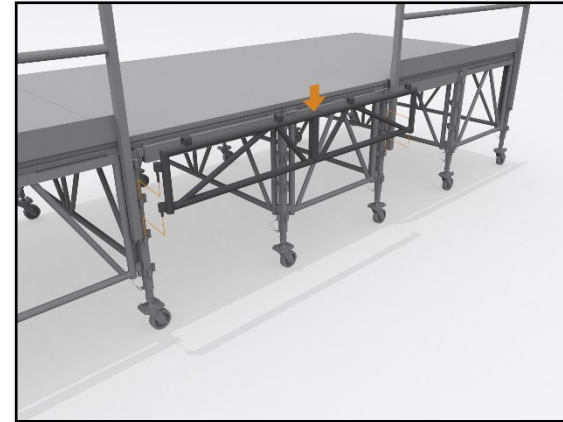

Fig. 40 – Interface Bracket
- 9.5.5 The Interface Bracket locates on to the outer mid positions of the Node Post. (Holes 2 & 3). *Fig. 40 – Interface Bracket*